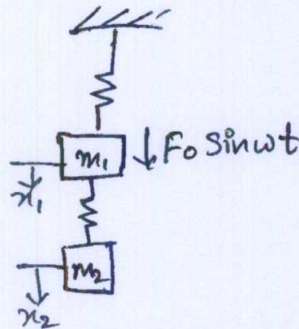

Fig.Q.7(a)
- b. A torsional three rotor system is shown in Fig.Q.7(b). Determine i) Differential equation of motion; ii) Frequency equation.